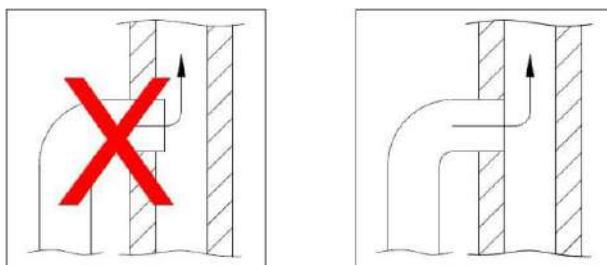

Figure 4
5. When connecting the stove to the chimney, insert the flue pipe into the chimney and attach it to the opening in the chimney. The flue pipe must not pass through the chimney opening itself and must be flush with the inside of the flue pipe. As shown in Figure 4, the connection between the masonry and the flue pipe must be sealed using fireproof materials or slats.